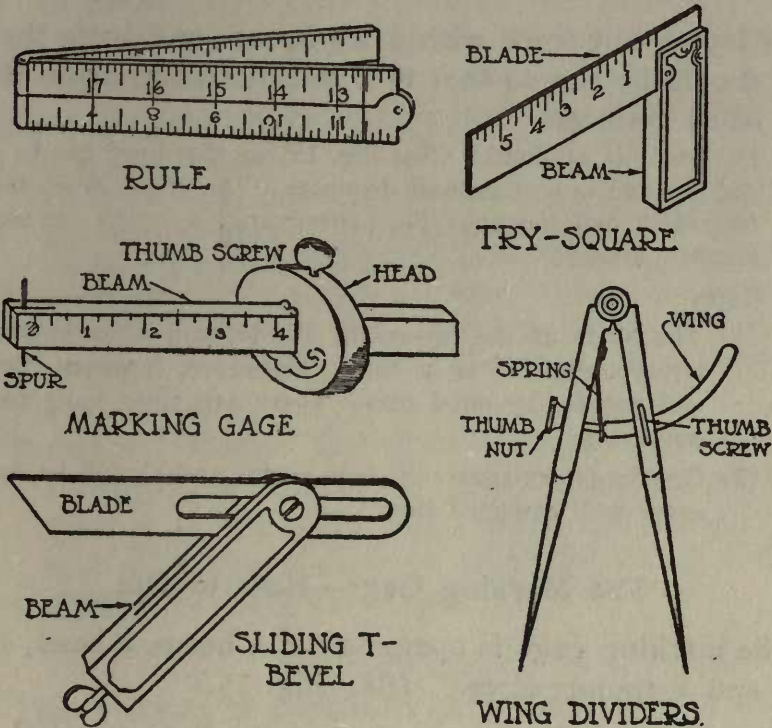

Fig. 15.
3. **All thick edge rules, e. g., the carpenter's pocket rule (See Fig. 15), should be turned upon edge when used**
1. The try-square is composed of a beam and a blade set at right angles to each other. (See Fig. 15.)
The blade is graduated (See Fig. 15) so that lines can be started and stopped at any desired distances. *Therefore, draw the cross lines first and the gage lines afterward in laying out mortises, tenons, gains, etc.*
1. The marking gage is composed of a beam, a head, a spur, and a thumb screw. (See Fig. 15.)
1. The T-Bevel is composed of a beam and an adjustable blade. (See Fig. 15.)
The dividers, or compasses, are constructed in various ways, but the so-called wing dividers are found in most shops. (See Fig. 15.) They are used: